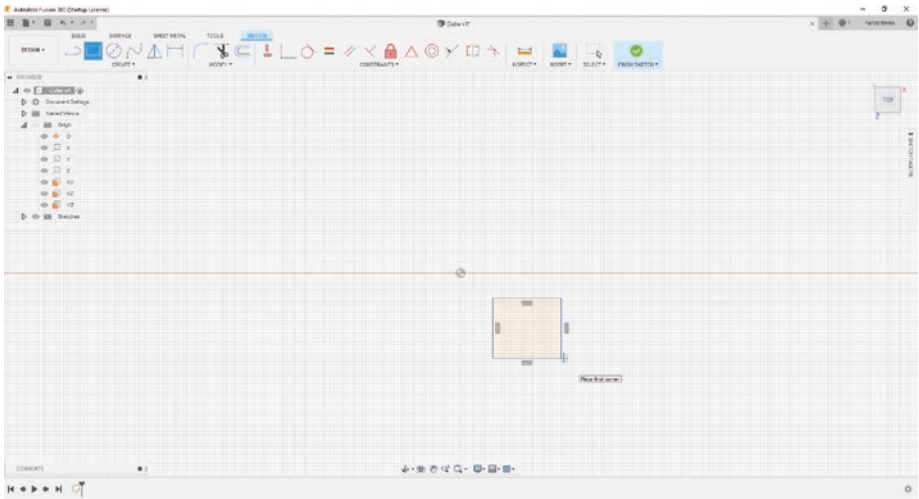

Figure 3-42. Add a rectangle to the grid
5. Put a rectangle anywhere on the grid; don't worry about the dimensions yet. Press "Enter" when you are finished. See Figure 3-42.